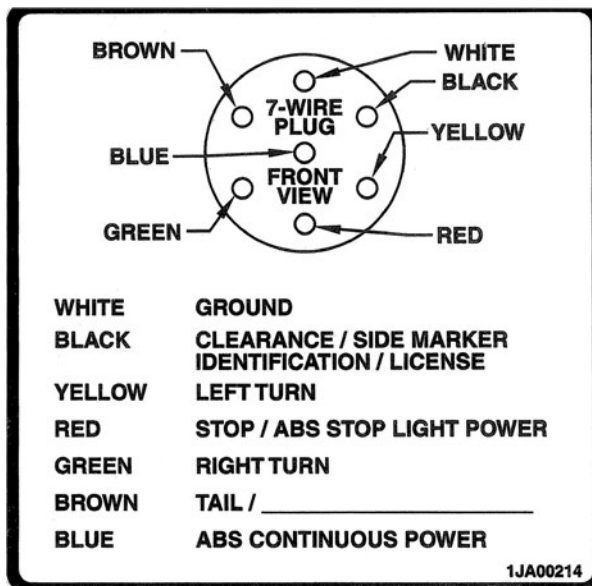

Figure 48 – Wiring Schematic Color Code
All of our semi-trailers are equipped with an electrical system comprised of six (6) circuits and one ground wire. Hence a 7-pin nose plug is used to connect electrical power from the tractor. The 7 wires in the main wire harness are color coded as shown in Figure 48.